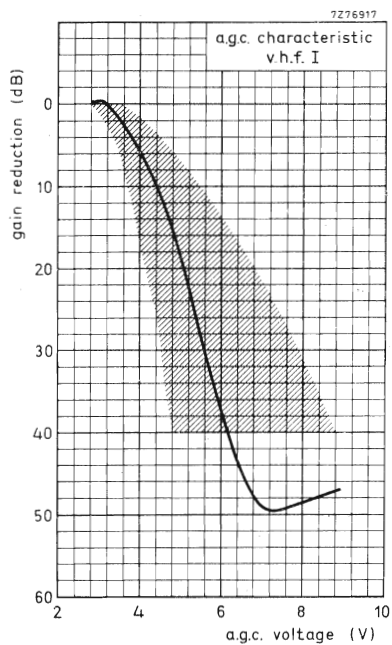

Fig. 5.
A.G.C. voltage (Figs 5, 6 and 7)